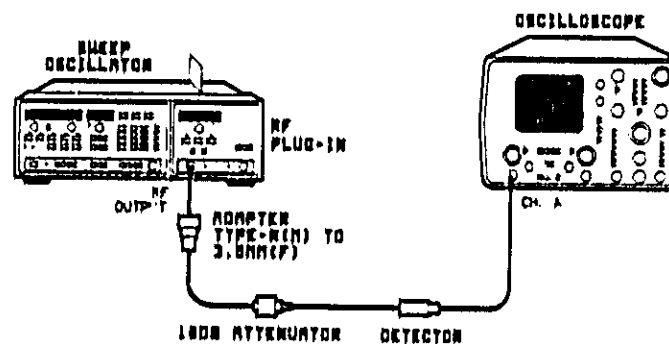

Figure 5-33. Sample & Hold Test Setup
1. With AC power OFF, put the A4 assembly on an extender board and connect the equipment as shown in Figure 5-33.